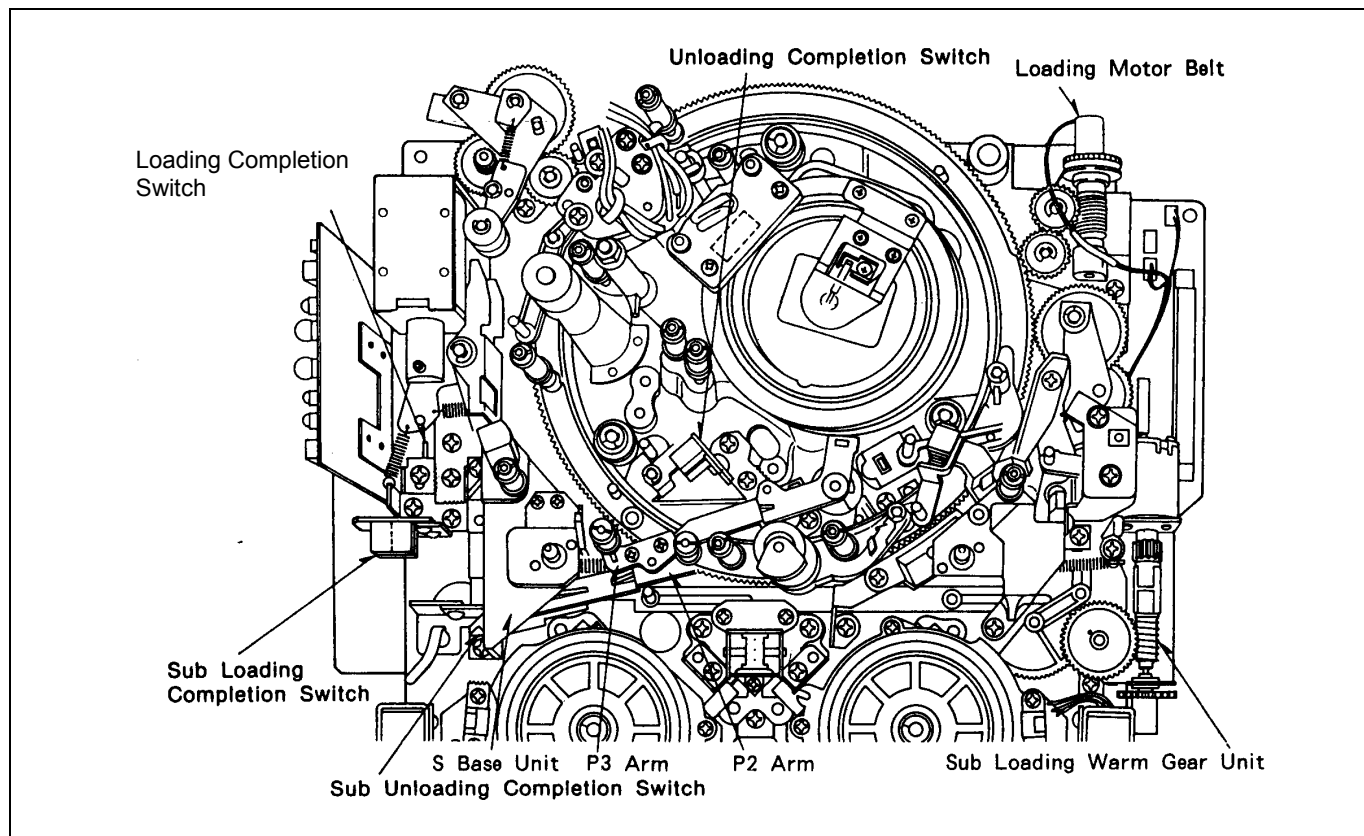

Figure 7-24-1 Loading/Unloading, Sub Loading/Sub Unloading Completion Switch
2. Turn Sub Loading Worm Gear Unit so that P2 Arm just contacts with S Base Unit as shown in figure 7-24-1.